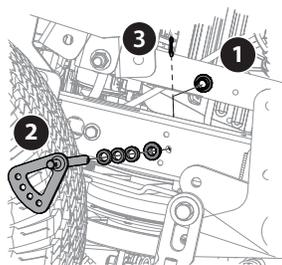

Figure 2
1. Install a flange bearing (748-0208A) into right interior side of tractor frame. See (1) in Figure 2.
2. Slide three spacers (750-0535) and flange bearing (748-0208A) onto pivot shaft assembly (680-01596) and install into mounting hole on tractor frame, securing with flange bearing installed in Step 1. See (2) in Figure 2.
3. Use a cotter pin (714-0470) to secure pivot shaft assembly (680-01596). Bend to close. See (3) in Figure 2.